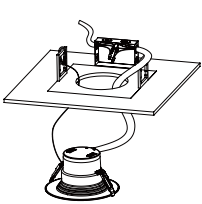

Fig. 4
- Step 4: Insert lamp conduit into the J-box and wire to power source (black to hot, white to neutral, violet to 0-10V dimming positive, gray to 0-10V dimming negative) (Fig. 4). Reattach J-box cover when done.